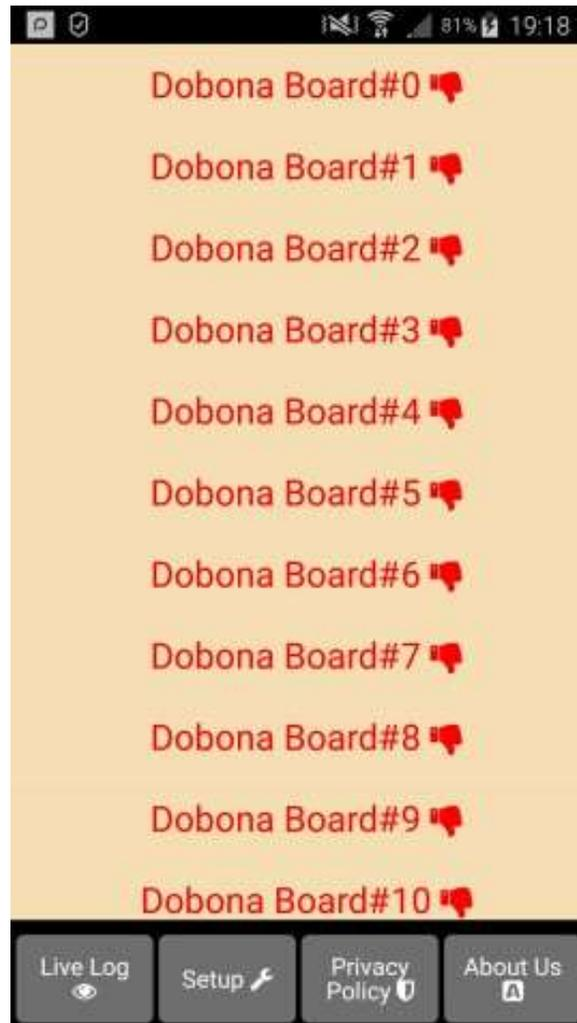

Fig 2.
5. Since no board has been setup yet, the user should press on the setup button on the bottom of the screen to move to the setup page, which looks similar the live_log page but with a beige background (Fig.2).